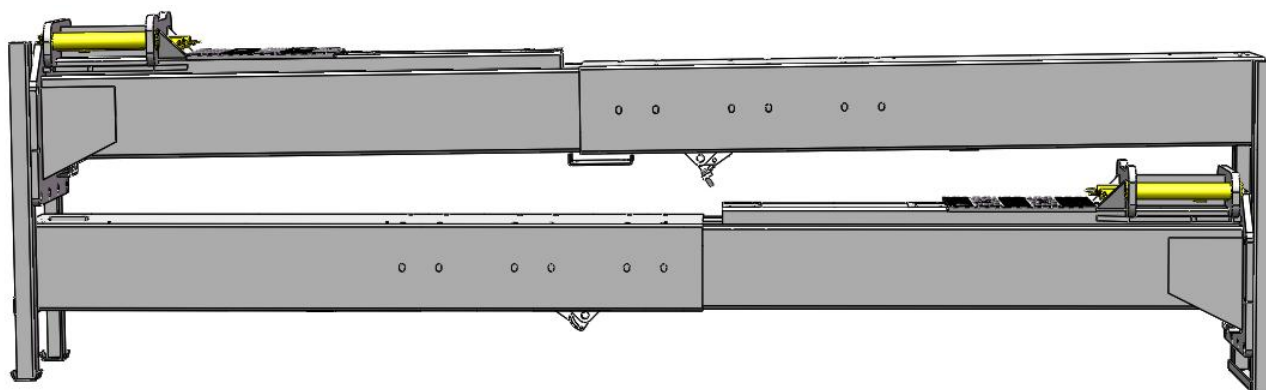

Fig. 12
3. Take out top beam, then move them aside to the installation position. (See Fig. 12)